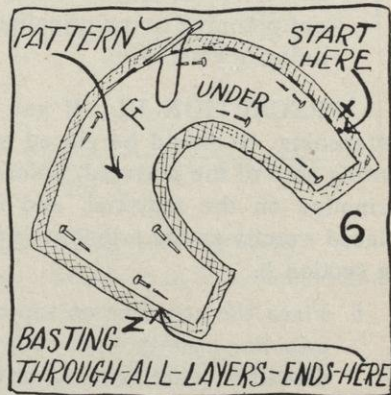

FIG. 6.
- a. Baste all of the layers of the material together just outside of the larger edge of pattern, starting 1 inch from one end of the pattern (see point X in Figure 6) and stopping 1 inch from the other end of the pattern (see point Z in Figure 6). This basting must be firm and fastened well at each end. Do not sew through the pattern, but sew as close as you can to the edge of it (see Figure 6).
- b. Slash from the inner edge, at intervals of $\frac{3}{8}$ inch almost to the headsize band, pinned in place (see Figure 6 of Job 8, page 35).